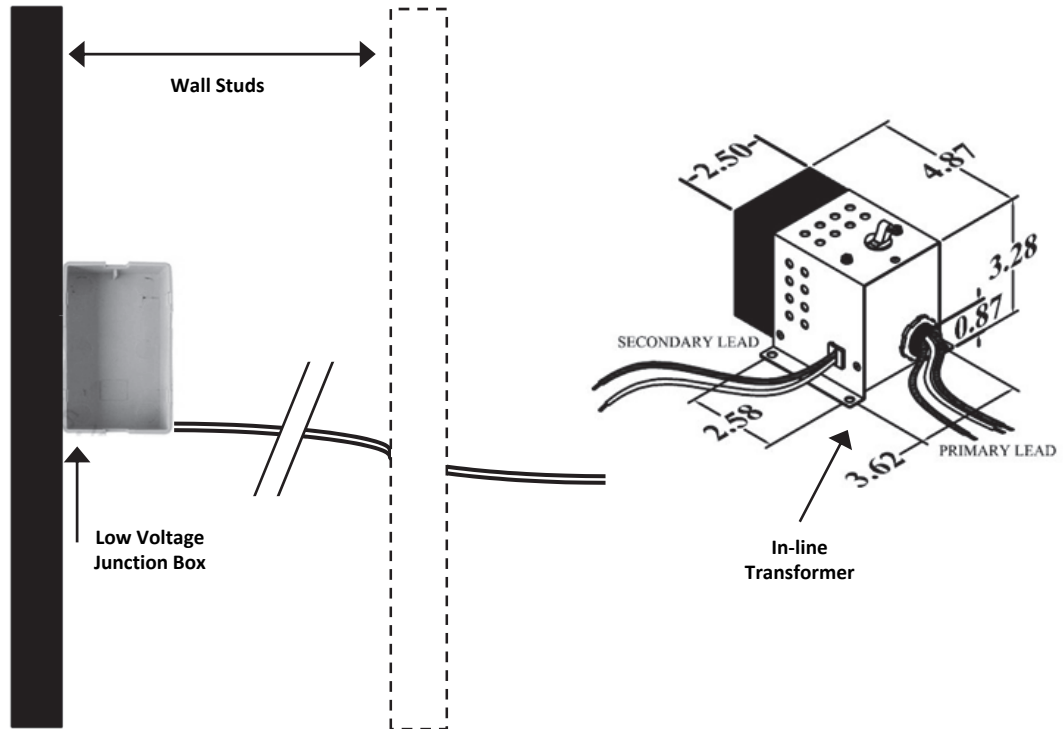

Figure 1. Locating the junction box and running wires (front view).
4. Remove the marked area of wallboard and mount the junction box per manufacturers instructions. (see Figure 1).